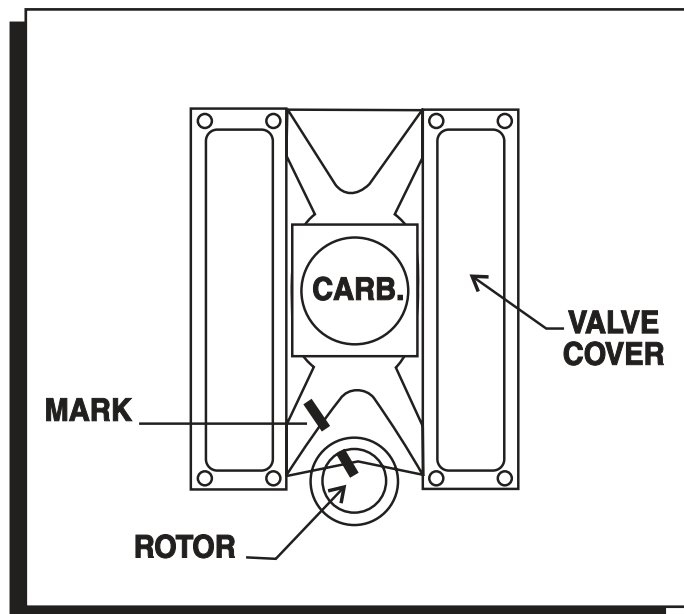

Figure 11 Marking the Rotor Location.
2. With the cap off, crank the engine until the rotor is aimed at a fixed point on the engine. Note this position by making a mark (Figure 11).
12. Connect the supplied wiring harness to the distributor. Route the wires to their connections as shown in Figure 11.